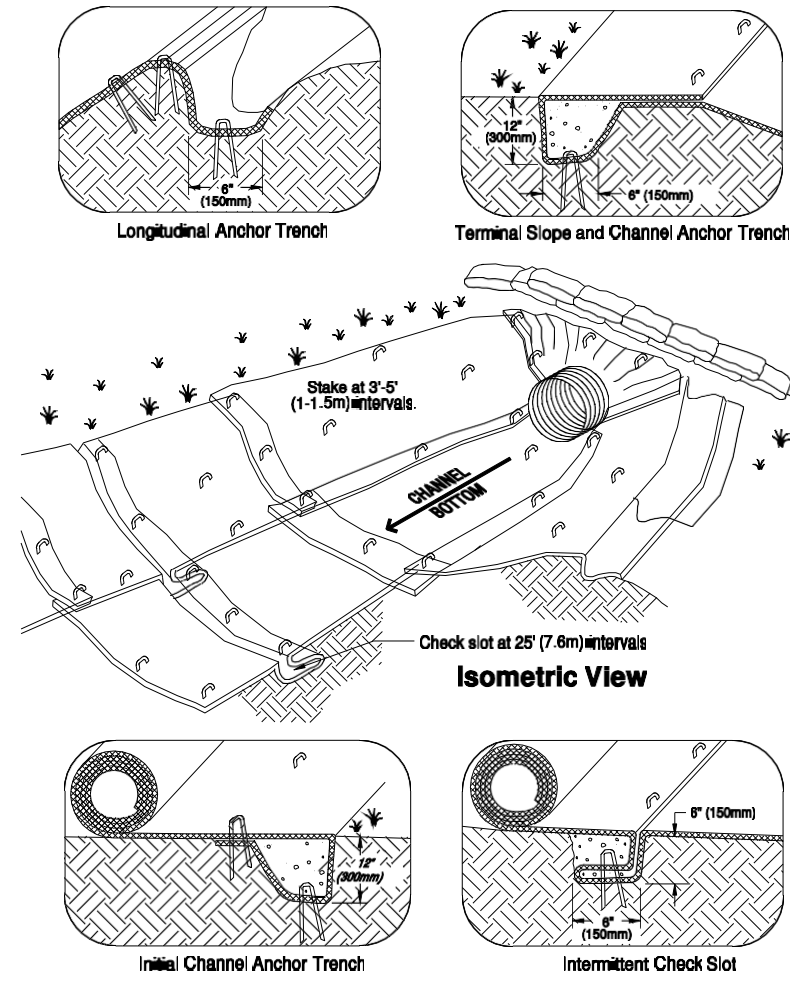
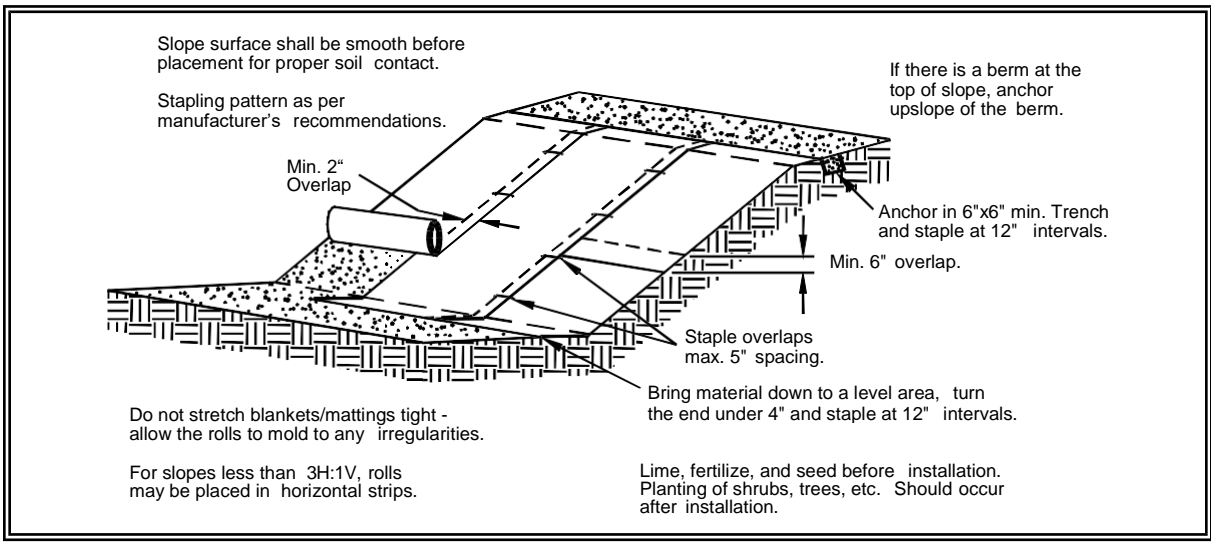

Figure 4.1.3 – Channel Installation
Figure 4.1.4 – Slope Installation
- See Figure 4.1.3 and Figure 4.1.4 for typical orientation and installation of blankets used in channels and as slope protection. Note: these are typical only; all blankets must be installed per manufacturer’s installation instructions.